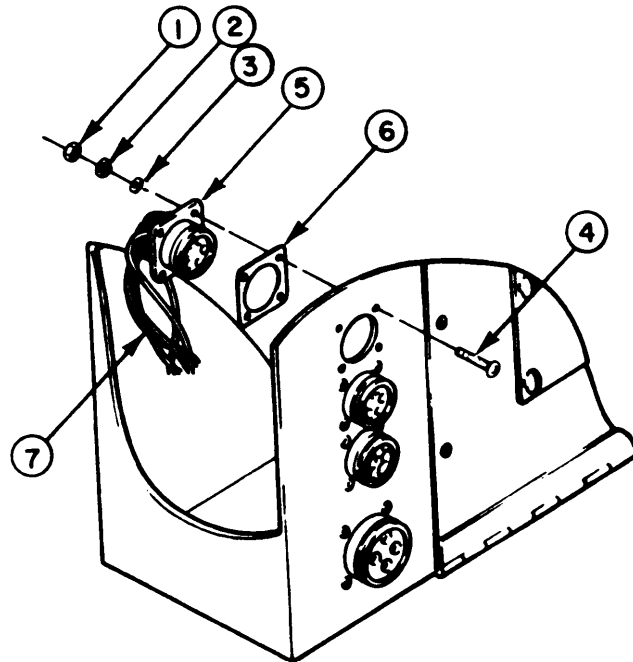

Figure 2-67. Power Receptacle (J1 thru J6, J8, J9)
- (1) Replace all damaged screws, nuts, bolts, and washers.
- (2) Replace all damaged or worn electrical wires.
- (3) Replace damaged power receptacles.
- (4) Replace damaged or worn wiring harness assemblies.
- (5) Solder loose wire connections to new power receptacle.
e. Installation. (Figure 2-67)
- (1) If needed, solder wires from harness (7) to receptacle (5).
- (2) Install replacement gasket (6) on front of receptacle (5).
- (3) From rear of mounting panel, insert receptacle (5) with harness (7) attached, into mounting hole in panel with large polarizing key at top.
- (4) Insert four screws (4) through mounting panel, gasket (6), and receptacle (5).
- (5) Install four flat washers (3), four lockwashers (2), and four nuts (1) to screw (4).
- (6) If needed, reconnect wires in harness (7) to all other points in the junction box assembly or the control box assembly in accordance with paragraph 2-51.